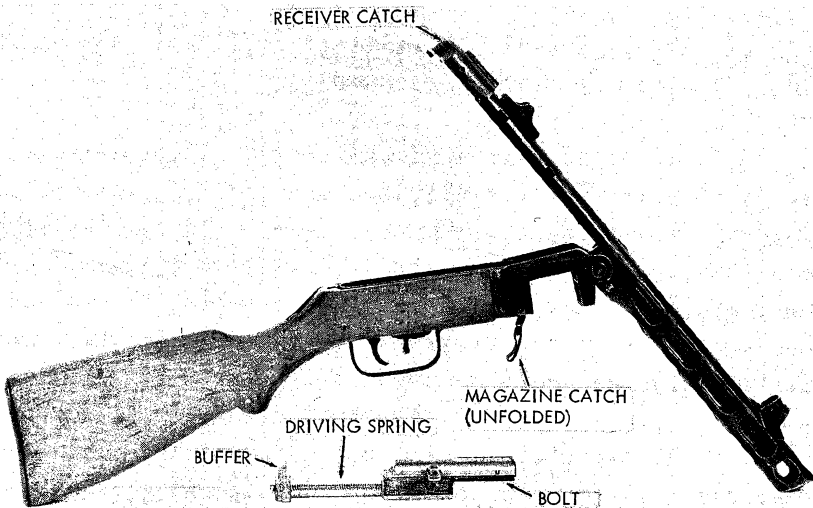

Figure 35. PPsh-41 field stripped.
d. Remove the magazine by unfolding the magazine catch (fig 35) and pressing it forward, toward the magazine; simultaneously pull the magazine straight down and out of the magazine opening.
(1) Clear the gun (para .57e), but do not insert the magazine.
(2) Press in on the receiver catch at the rear of the receiver and swing the barrel down (fig 35).
(3) Grasp the operating handle, pull it rearward and upward, and rotate the bolt, driving spring assembly, and buffer